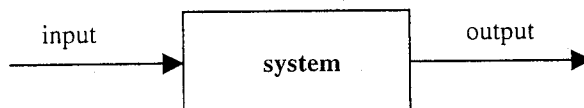

Fig.4b
- (b) Tests on the system in Fig.4b gave the frequency-response results shown in the table. Plot the results onto log-linear graph paper and proceed to deduce the transfer function of the system. [12 marks]